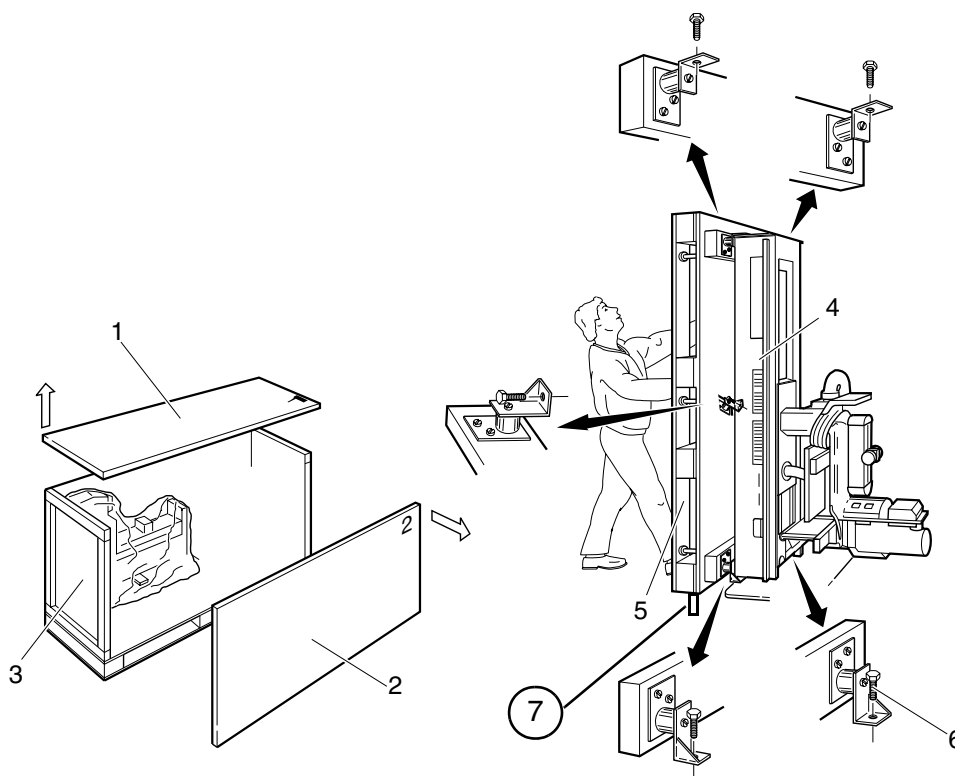

Fig. 1 Unpacking the MAMMOMAT Stand
1. Open the stand crate by removing the top (1/Fig. 1) and then the side wall (2/Fig. 1).
2. Remove the remaining walls (3/Fig. 1).
3. Remove the wooden bar (7/Fig. 1) at the bottom of the pallet.
4. Upend the stand (4/Fig. 1) with pallet (5/Fig. 1) (two persons are required).
5. Loosen the six bolts (6/Fig. 1) and remove the pallet (5/Fig. 1).